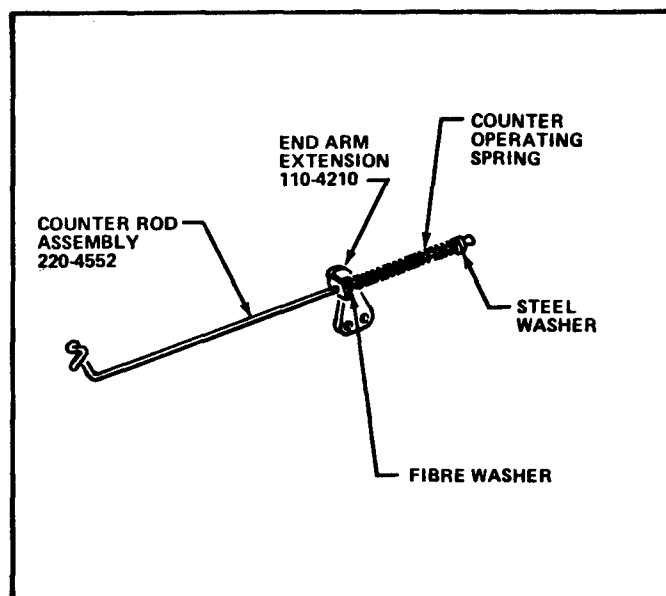

Figure 2
5. Insert the Counter Rod Assembly, part number 220-4552, through the hole in the End Arm Extension, part number 110-4210. See Figure 2.